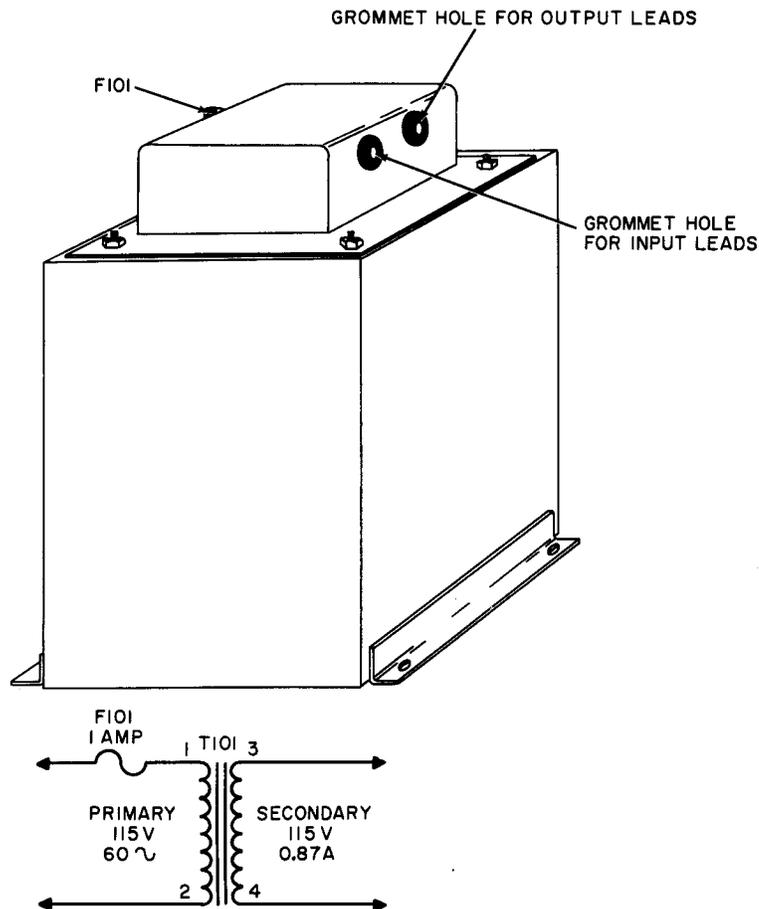

Figure 2-14. Isolation Transformer T101
7. ISOLATION TRANSFORMER. (see figure 2-14)